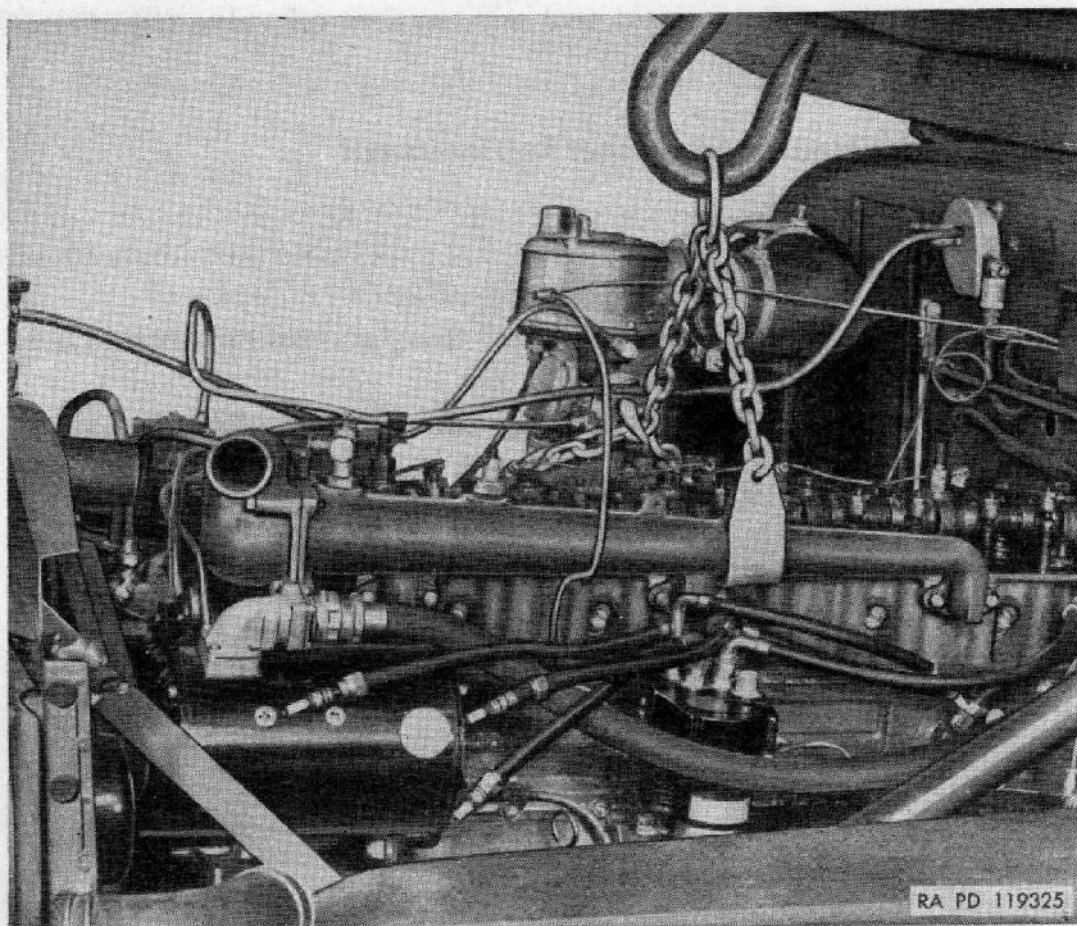
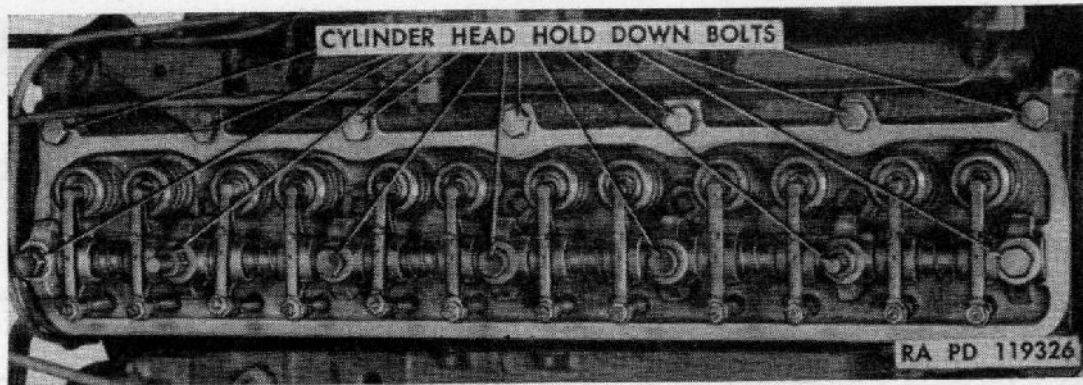

Figure 40. Removing cylinder head using sling 41-S-3829-750.
Figure 41. Cylinder head with valve rocker arm cover removed.
- (15) Remove 14 cylinder-head bolts and washers (fig. 41).
- (16) Lift off valve-rocker arm assemblies.
- (17) Install cylinder-head lifting sling 41-S-3829-750 (fig. 40). Slide clamp on water manifold to front as far as it will go. Hook chain around exhaust-manifold and carburetor adapter tightly to avoid damage to carburetor governor assembly and primer line when lifting cylinder head. Lift cylinder head
- (1) Clean gasket surface of cylinder head and crankcase thoroughly.
- (2) Install new cylinder-head gasket on crankcase making sure side of gasket marked "THIS SIDE DOWN" is placed next to crankcase. This is necessary in order to aline water-passage holes in gasket with passages in crankcase and head.
- (3) Place new exhaust-pipe gasket over end of exhaust pipe and push down to collar.
- (4) Check to be sure that all lines, cables, and parts are installed on the cylinder head that were connected to and removed with it from the engine. If any components of the cylinder head were removed and installed, check to make sure all installations were accomplished correctly.
- (5) Install cylinder-head lifting sling 41-S-3829-750 (*a* (16) above) (fig. 40). Raise cylinder head high enough to clear; then carefully lower cylinder head into place.